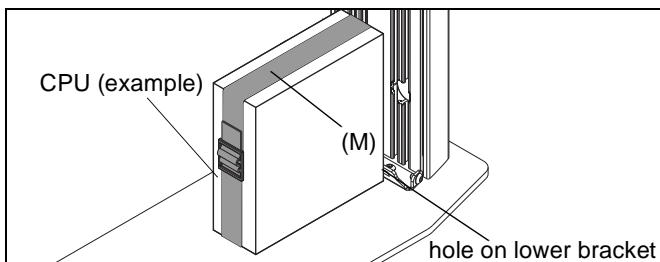

Figure 14
1. Route CPU strap (M) through hole on lower bracket and around CPU to secure CPU to column base. (See Figure 14)